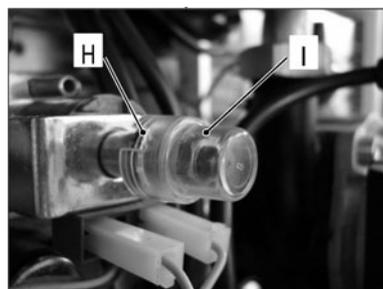

Figure 15.5
- Remove the protection cap I (Fig. 15.5) from the mechanical pressure adjustment components levering with a flat screwdriver in slots H.